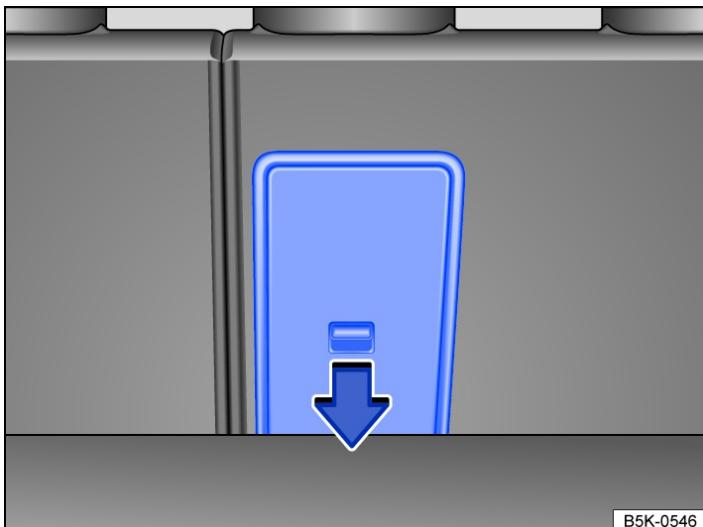

Fig. 2 In the luggage compartment: opening the load-through hatch.
1. Push down the release lever in the direction of the arrow → *Fig. 2* and push the cover forwards.